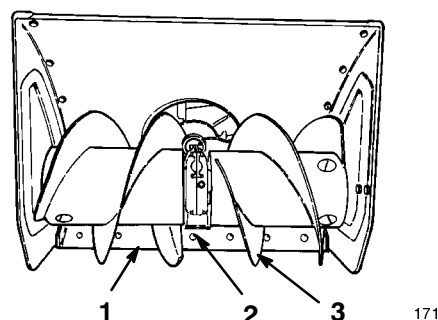

Figure 9
- Move the snowthrower onto a flat surface and make sure that the scraper (Fig. 9) is parallel to the ground. If it is not, adjust the scraper; refer to *Adjusting the Skids and the Scraper* on page 21.